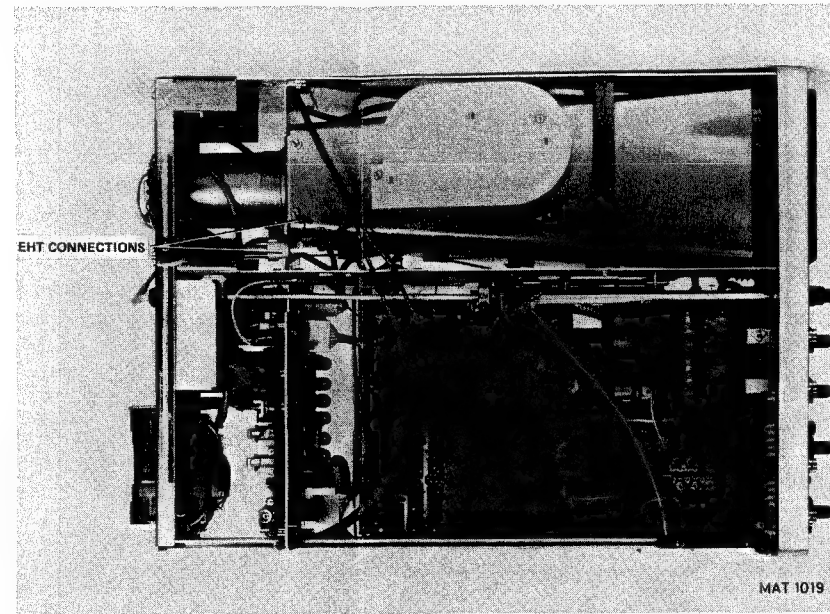

Fig. 6.10.
- Disconnect the EHT connections fig. 6.10.